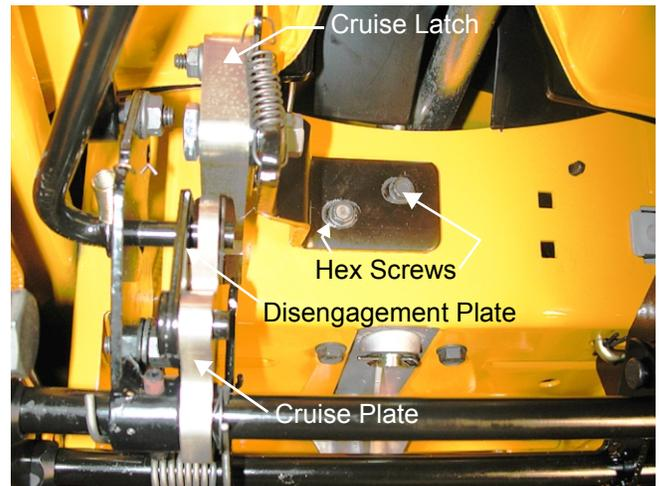

Figure 2
2. Align the cruise latch so it is parallel to the disengagement plate assembly. See Figure 2.